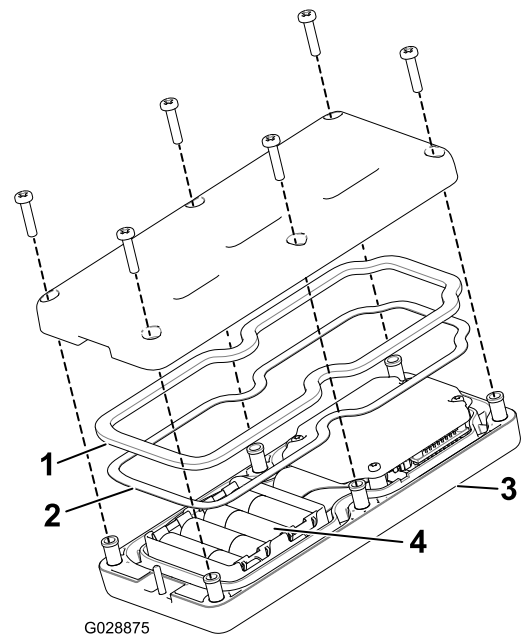

Figure 37
3. Remove the 6 screws from the back of the remote and remove the cover (Figure 37).
5. Plug each fresh battery into a terminal cradle observing proper polarity. (If the batteries are improperly installed, the unit will not be damaged, but it will fail to operate.) The cradle is embossed with polarity markings for each terminal (Figure 37).
6. If you accidentally removed the rubber seal and the steel gasket, replace them carefully into the channel in the handheld remote (Figure 37).
7. Replace the cover and secure it with the 6 screws removed previously (Figure 37) and torque them to 1.5 to 1.7 N-m (13 to 15 in-lb).